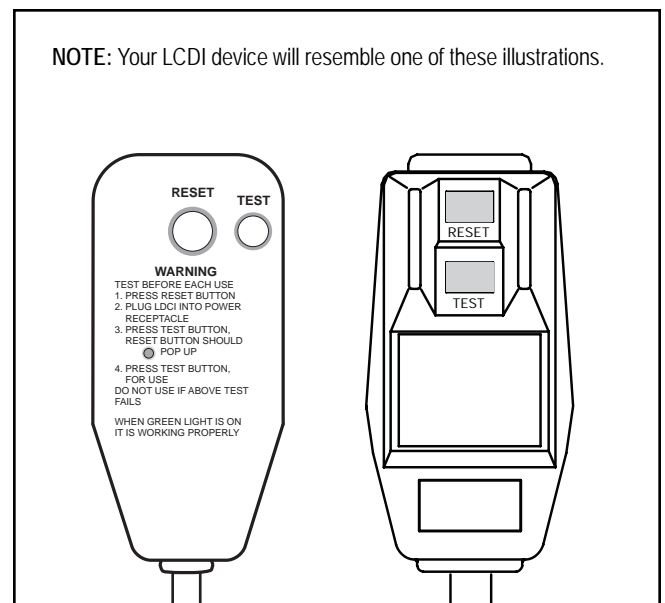

Figure 7
2. Press **RESET** (See Figure 7).